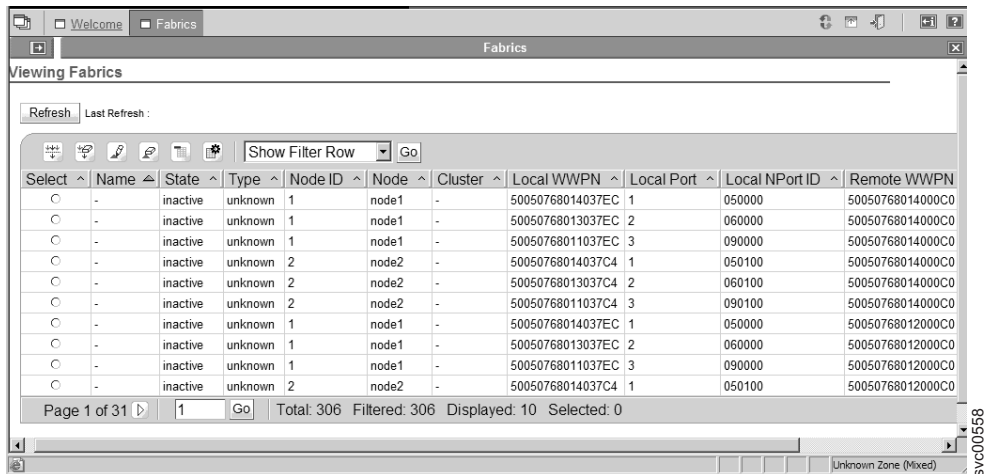

Figure 52. Viewing Fabrics panel
5. Click **Service and Maintenance** → **Fabrics**. The **Viewing Fabrics** panel is displayed. See the example in Figure 52 on page 102.
The first line of Figure 52 shows the following connection: